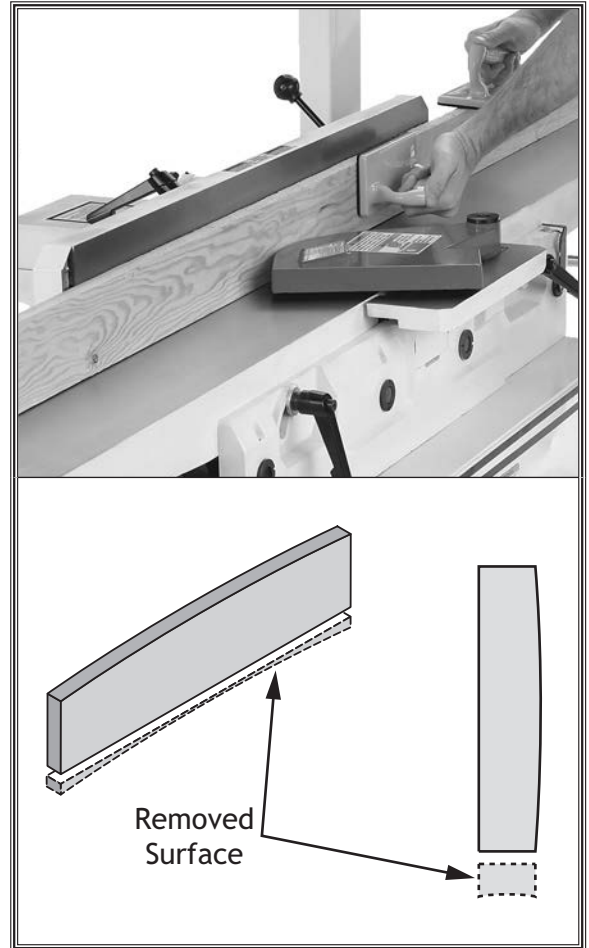

Figure 25. Example of a typical edge jointing operation.
Edge jointing (see **Figure 25**) produces a flat and true surface along the side of a workpiece by removing uneven areas. It is an essential step for squaring up warped or rough stock and when preparing a workpiece for joinery or finishing.
6. Place workpiece firmly against fence and infeed table with concave side facing down, as shown in **Figure 25**.